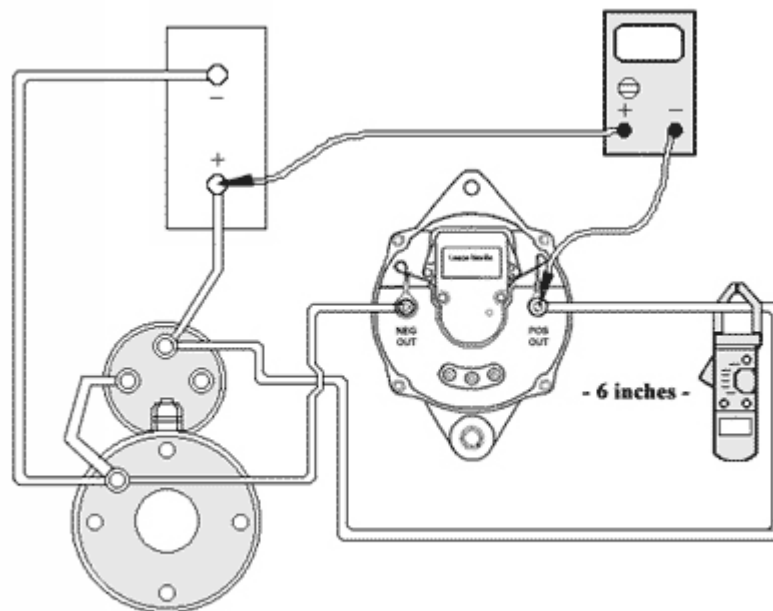
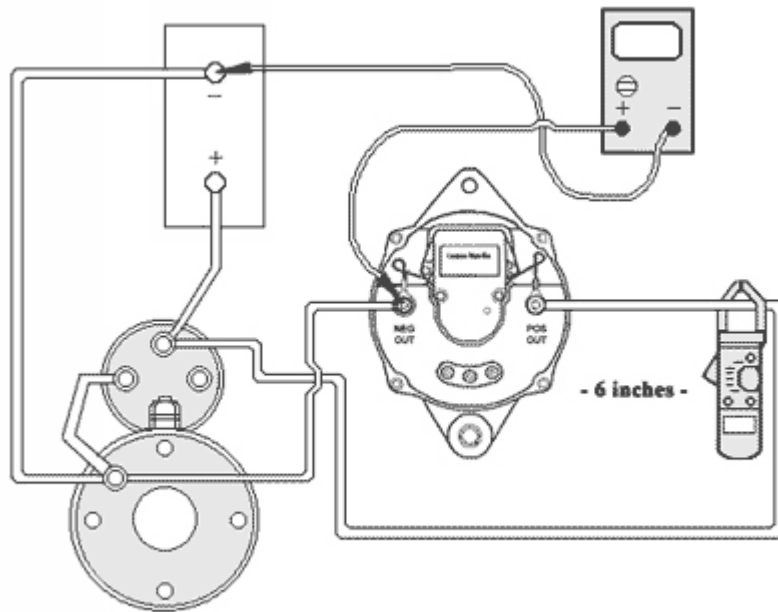

Figure 14: Positive cable test
Figure 15: Negative cable test
**Alternator Cable Test.** To test the positive cable connect the ammeter to the positive cable from the alternator. Make sure the ammeter is at least 6 inches (15 cm) away from the alternator to eliminate the possibility of faulty readings. Connect the voltmeter's negative lead to the positive terminal of the alternator and the positive lead to the positive terminal on the battery, see Figure 14. Start engine and set engine RPM to 1500 RPMs (operating speed). Turn on vehicle loads until 75% of alternator's rated output is achieved on ammeter display. If necessary use a carbon pile tester to apply load on alternator. Record voltage on voltmeter. If reading is greater than .25 volts in a 12 volt circuit or .50 volts in a 24 volt circuit check all wire connections and cable connections. If reading is less than .25 volts in 12 volt circuit and .50 volts in a 24 volt circuit cables are good. Turn off vehicle loads and shut off engine. To test the negative cable move voltmeter's negative lead to the negative terminal of the battery and the positive lead to the negative terminal of the alternator, see Figure 15. Run test again. Use Figure 16 for recommended wire sizes for any cable repairs.